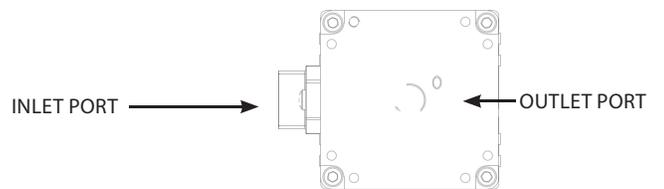
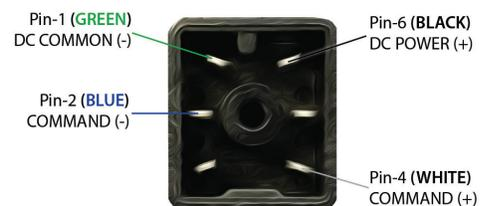

Figure 1
Figure 2
3. Connect supply pressure to the INLET PORT (I) not to exceed the rated supply pressure (see Figure 1 and Table 1).
4. Connect the OUTPUT PORT (O) to the device being controlled.
5. **If this is a vacuum or vacuum through positive pressure unit, connect vacuum supply to the EXHAUST PORT (E). Positive pressure is required on the inlet with vacuum units. FOR ANY QUESTIONS, PLEASE CALL THE FACTORY.**
3. Figure 1 shows the location of the ISQBF electrical connector and figure 2 shows the connector.
5. Connect ground wire to intrinsically safe ground (Figure 1).
3. Provide supply pressure to the INLET PORT of the ISQBF (see Figure 1). Make sure supply pressure does not exceed the rating for the valve (see Table 1).